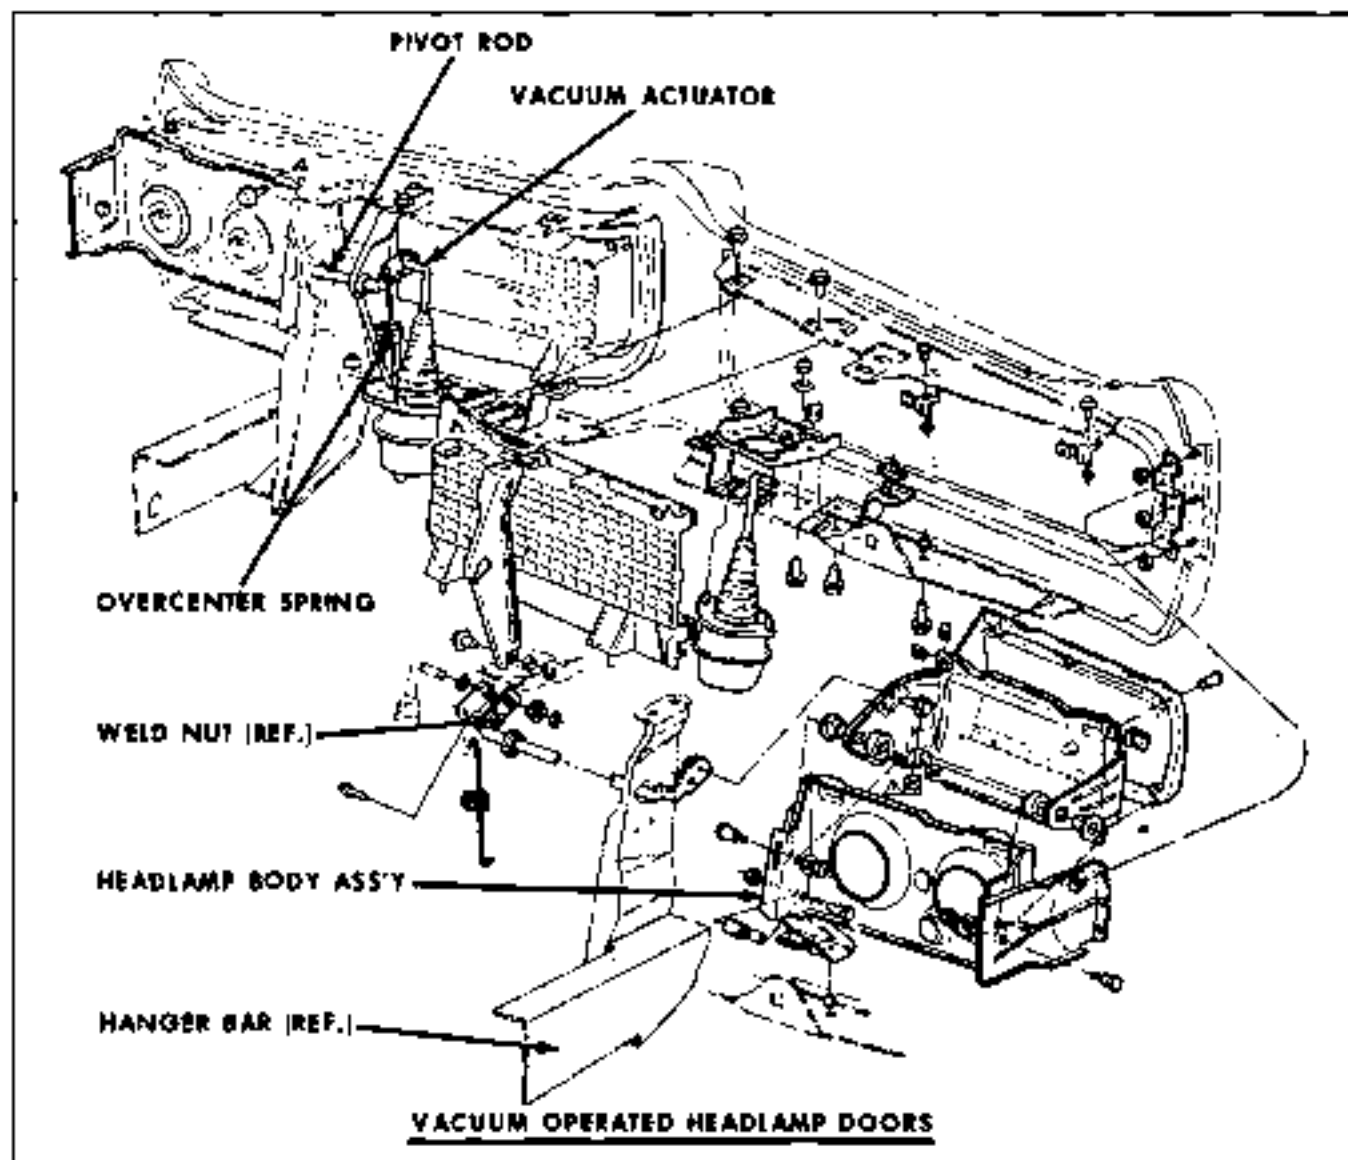

Fig. 12-40 Vacuum Operated Headlamp Doors—GTO
4. Remove "E" clips retaining actuator to pivot rod, Fig. 12-40.